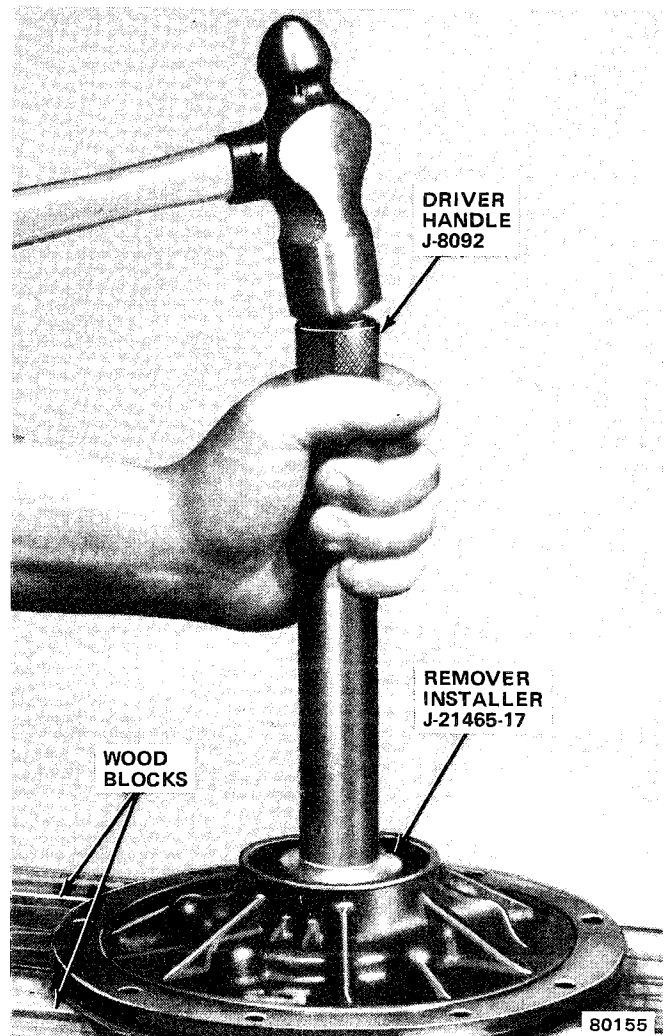

Fig. 2C-128 Oil Pump Body Bushing Installation
(3) Thread Remover J-21465-15 into bushing. Remove bushing by bumping outward with Slide Hammer J-2619 (fig. 2C-129).
(4) Remove shaft and pump cover assembly from vise. Support assembly on wood block. Position wood block under pump cover seal ring hub.
(5) Clean bushing bore.